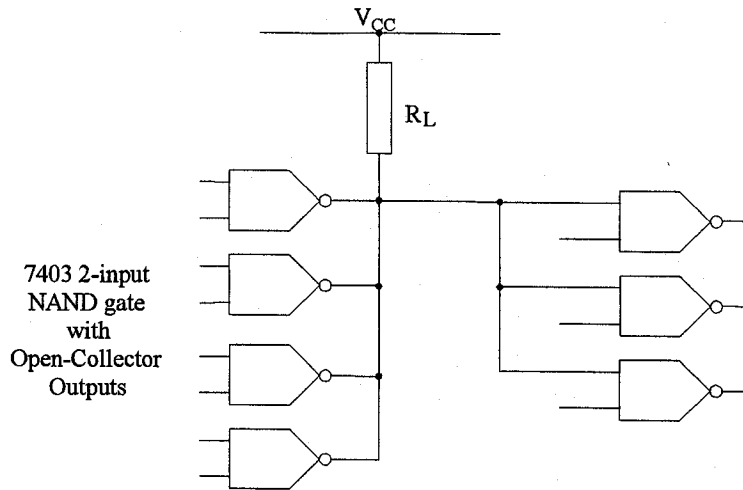

Fig. 1. Open-collector configuration (Q. 1)
- (b) For the circuit shown in Fig. 1, calculate the range in which the value of the pull-up resistor  $R_L$  should fall. The following values may be used for the relevant electrical characteristics of the logic gates:  $I_{oh} = -220 \mu A$ ,  $I_{ih} = 45 \mu A$ ,  $V_{OH(min)} = 2.4 V$ ,  $V_{OL(max)} = 0.4 V$ ,  $I_{ol(max)} = 16 mA$ ,  $I_{il} = -1.6 mA$ . You may assume that only one gate is "on" in the low output state. [7 marks]